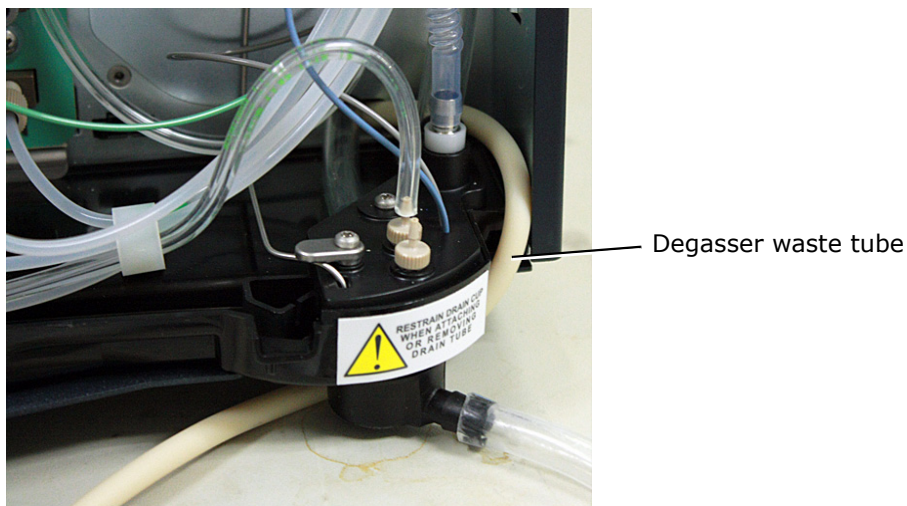

Figure 13 - Degasser waste tube routing
14. Route the degasser vent tube as shown in Figure 13, then on to a suitable container or exhaust system.